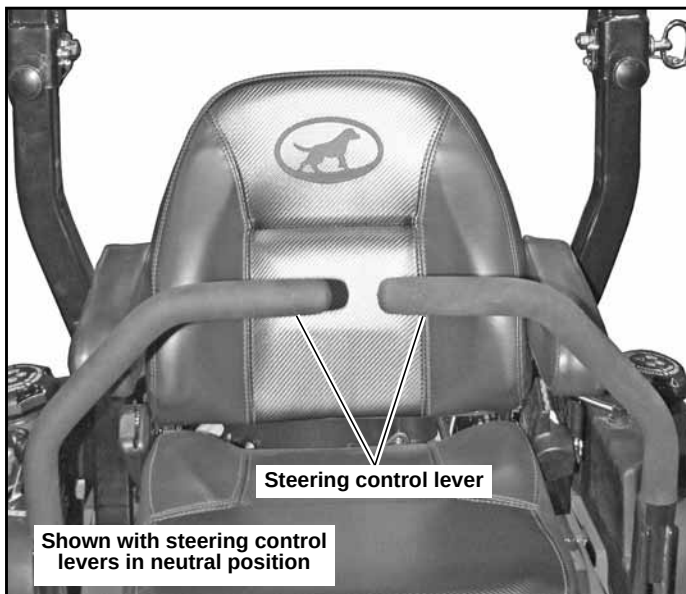
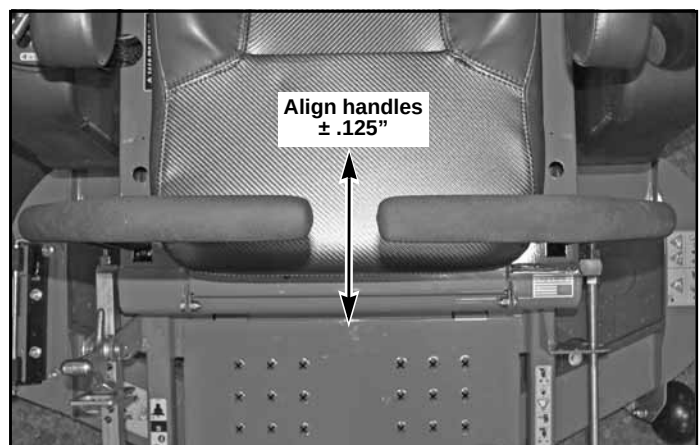

Figure 4-3
Figure 4-4
7. Start the engine. Move the steering control lever to barely engage the brake (neutral) slot and hold it in that position (Do not engage the steering control lever far enough to engage the brakes in the brake slot) (Figure 4-3).
17. The steering control levers should be adjusted so that they align vertically with each other when in the neutral position (Figure 4-3). Space between ends of steering control handles to be $.50'' \pm .25''$. Figure 4-4
3. Place the steering control lever in the neutral position. Figure 4-3